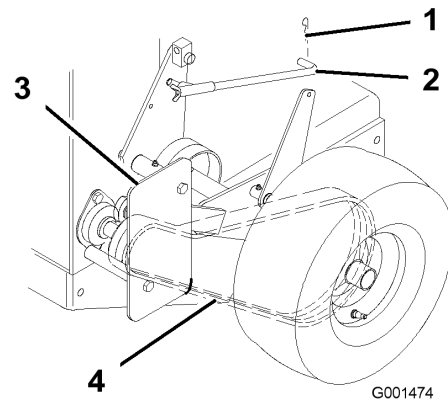

Figure 32
1. Remove hairpin cotter securing brake rod to brake arm to relax belt idler tension (Figure 32).
2. Remove bottom and loosen top bolts of shield to rotate for belt clearance (Figure 32).
3. Lift the belt past idler and off the drive pulley (Figure 32).
6. Secure shield with previously removed bolt and tighten bolts (Figure 32).
7. Secure brake rod to brake arm with hairpin cotter (Figure 32).